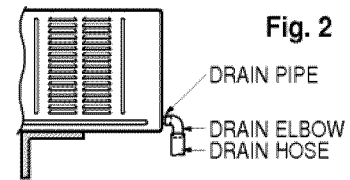

Fig. 2
3. Or connect a pipe elbow of $\frac{3}{16}$ " inside diameter to the drain pipe, then connect a drain hose of $\frac{3}{16}$ " inside diameter to the pipe elbow as shown in Fig. 2.